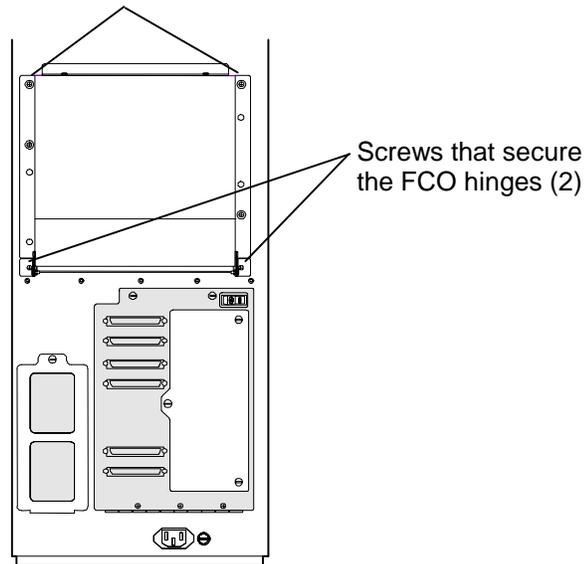

Figure 9-4 Screw Locations in a Type C FCO
7. Slowly lift the FCO until it touches the rear of the TLS. Using a Phillips screwdriver, secure the Fibre Channel Option to the rear of the TLS by tightening the two top captive screws. See Figure 9-4.